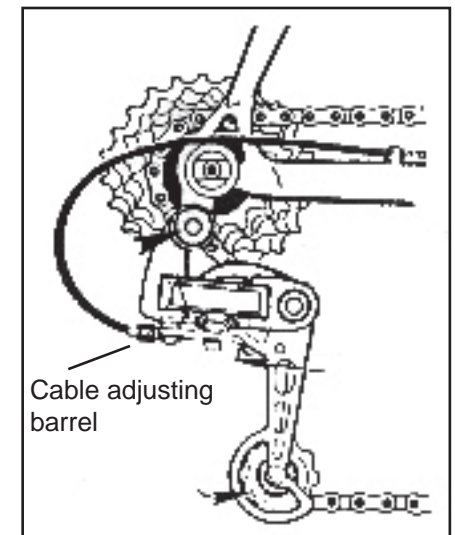

Fig. 16: Adjustment of Cable Tension
6. Cable tension is adjusted by turning the Cable Adjusting Barrel, which is located at the junction of the cable and the rear derailleur (Fig. 16). To increase tension turn the knurled knob counterclockwise, to decrease tension, turn the knob clockwise.